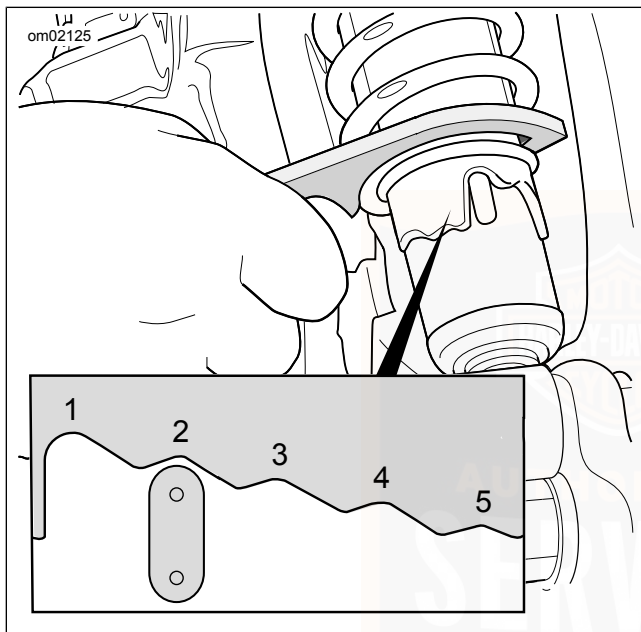

Figure 13. Shock Absorber Preload Adjustment
See Figure 13. Do not turn the preload cam from position five (5) to position one (1) or from position one (1) to position five (5).